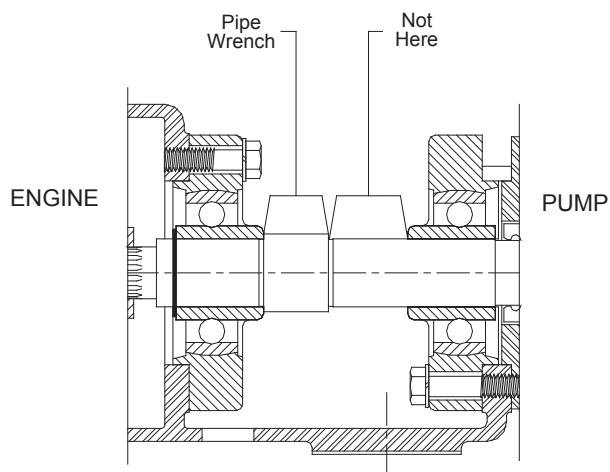

FIGURE 6
1. To clean pump impeller (3), loosen the two victaulic pipe clamps and remove the suction pipe assembly. The eye of the impeller can then be seen through the suction cover plate (1) and is readily accessible for cleaning.
2. For further access to the impeller, remove the eight bolts (5B) holding the cover plate (1) in place. Remove suction cover plate, being careful not to damage the O-Ring gasket (2).
3. To remove the impeller take the impeller wrench, which is stored in the tool box, and position it so that the hole is aligned with any of the eight tapped holes in the front of the pump casing (5). The 90° leg of the wrench should face in towards the impeller and be positioned between any two of the impeller fins. Bolt the wrench securely in place with one of the suction cover plate bolts (5B). Using a pipe wrench on the shaft (9) (See Figure 6), unscrew the impeller turning the shaft in a clockwise direction. Be careful not to unscrew the impeller too far before removing the puller wrench.